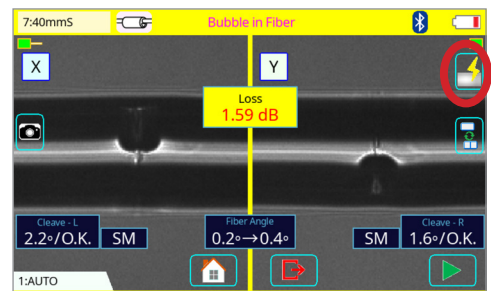

Figure 8
- A true bubble will appear as a dark circle at the splice point. Verify it is a bubble by pressing the **Re-Arc** button after the splice. If the occlusion changes or the spot grows, then it is a bubble. Break and re-splice (**Figure 8**).